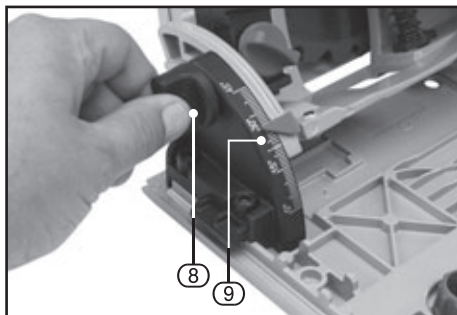

FIG.8
9.4 CUTTING ANGLE ADJUSTMENT – FIG.8